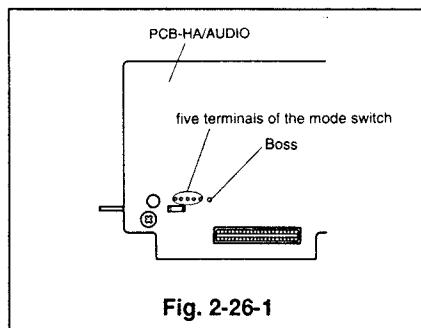
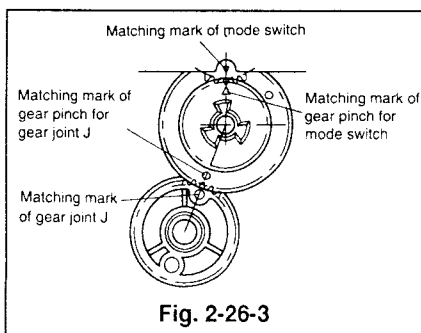

Fig. 2-26-1
Fig. 2-26-3
- 2 Unsolder the five soldered terminals connecting the PCB-HA/AUDIO to the mode switch. (Refer to Fig. 2-26-1).
- 1 Insert the five pins and the boss of the mode switch shown in Fig. 2-26-1 into the matching holes of the PCB-HA/AUDIO. Place the mode switch on the main plate so that the matching mark of the gear pinch aligns with that of the mode switch and fasten it with the catches as shown in Fig. 2-26-3. (Also make sure that the matching mark of the gear joint aligns with that of the gear pinch.)